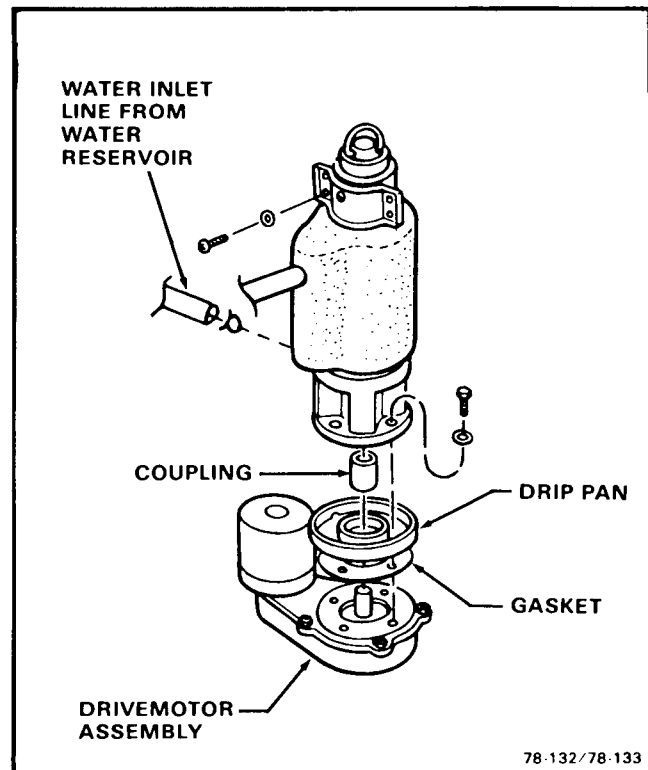

Figure 4-2. Removal of the Freezer Assembly.
A. To Remove the Freezer Assembly, see Figure 4-2: